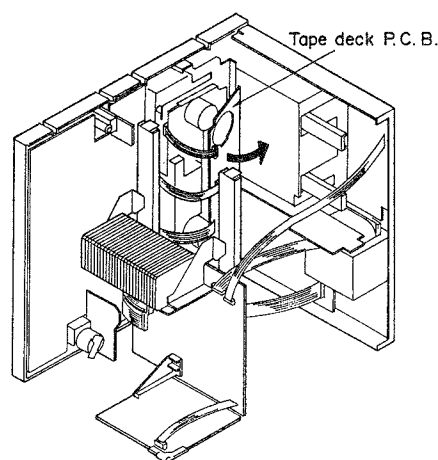

Fig. 4
7. Remove the 6 screws (⑪~⑯).
9. When checking the soldered surface of the main P.C.B. and replacing the parts, do as shown in the fig. 4.
8. When checking the soldered surface of the tape deck P.C.B. and replacing the parts, do as shown in the fig. 4.